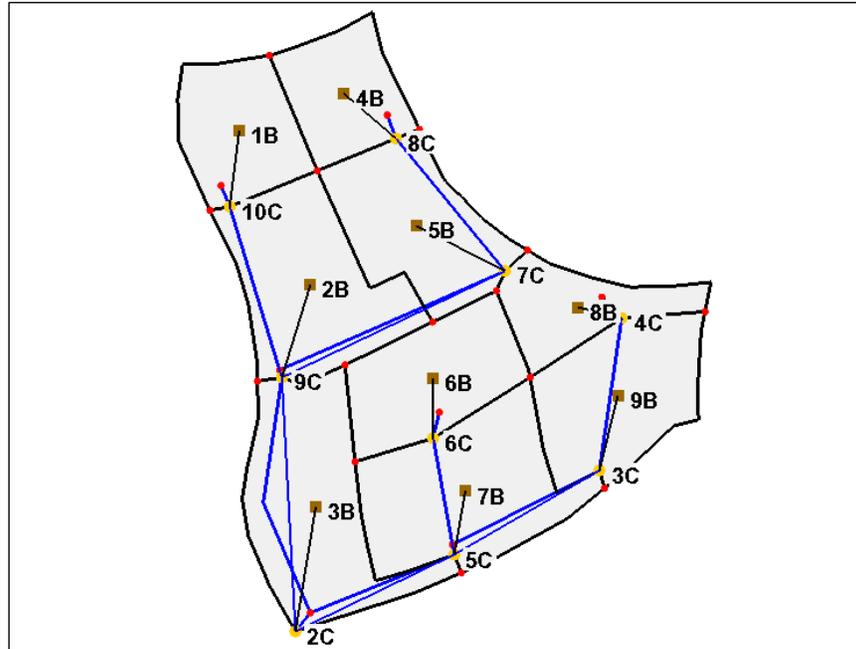

Figure 7 Drainage basins
2. Using the **Select basin** tool, double-click on basin 1B (see Figure 7) to open the *Rational Method* dialog.